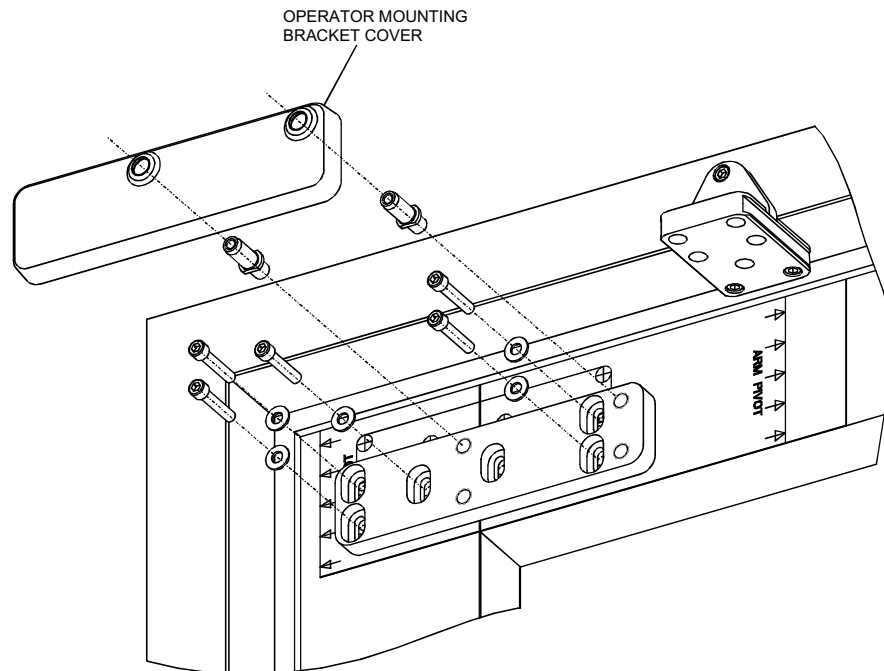

Figure 6
10. Refer to Figure 6, and INSTALL the operator mounting bracket cover over the operator mounting bracket.